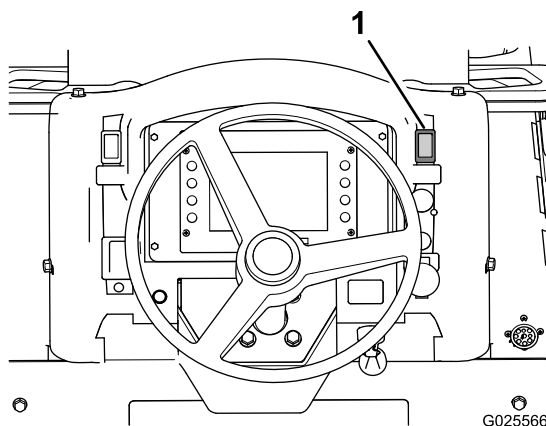

Figure 44
1. Toggle the parking-brake switch (Figure 44) up to apply the parking brake.